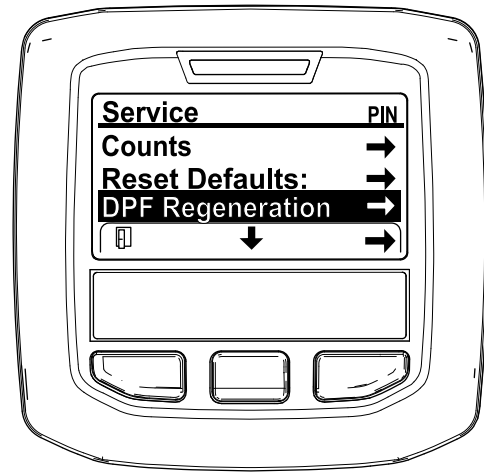

Figure 50
3. In the SERVICE MENU, press the middle button until the DPF REGENERATION options displays, and press the right button to select the DPF REGENERATION option (Figure 50).